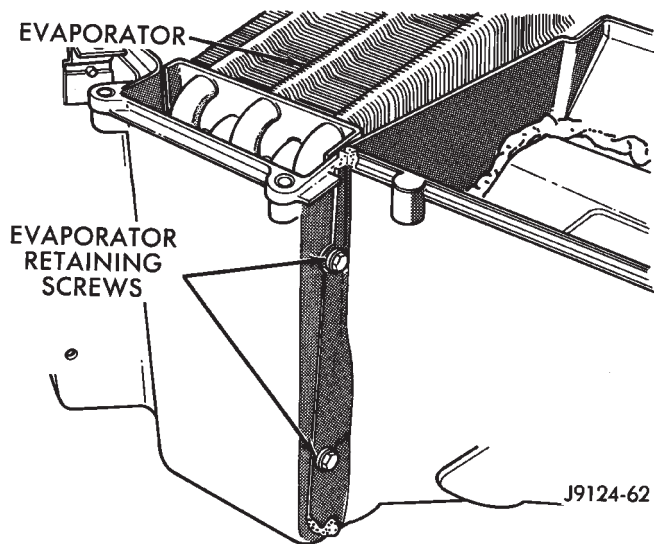

Fig. 29 Evaporator
(3) Remove the thermostatic switch and capillary tube after removing the top of the evaporator housing.
(4) Remove the evaporator retaining screws and lift the evaporator out of the housing (Fig. 29).
(5) Remove the expansion valve from the evaporator.
(1) Install the expansion valve into the evaporator.
(2) Position the evaporator in the housing. Install and tighten the evaporator retaining screws (Fig. 29).
(3) Install the thermostatic switch and capillary tube. Install the top of the evaporator housing.
(4) Position the top of the evaporator housing in place. Install and tighten the top housing retaining screws.